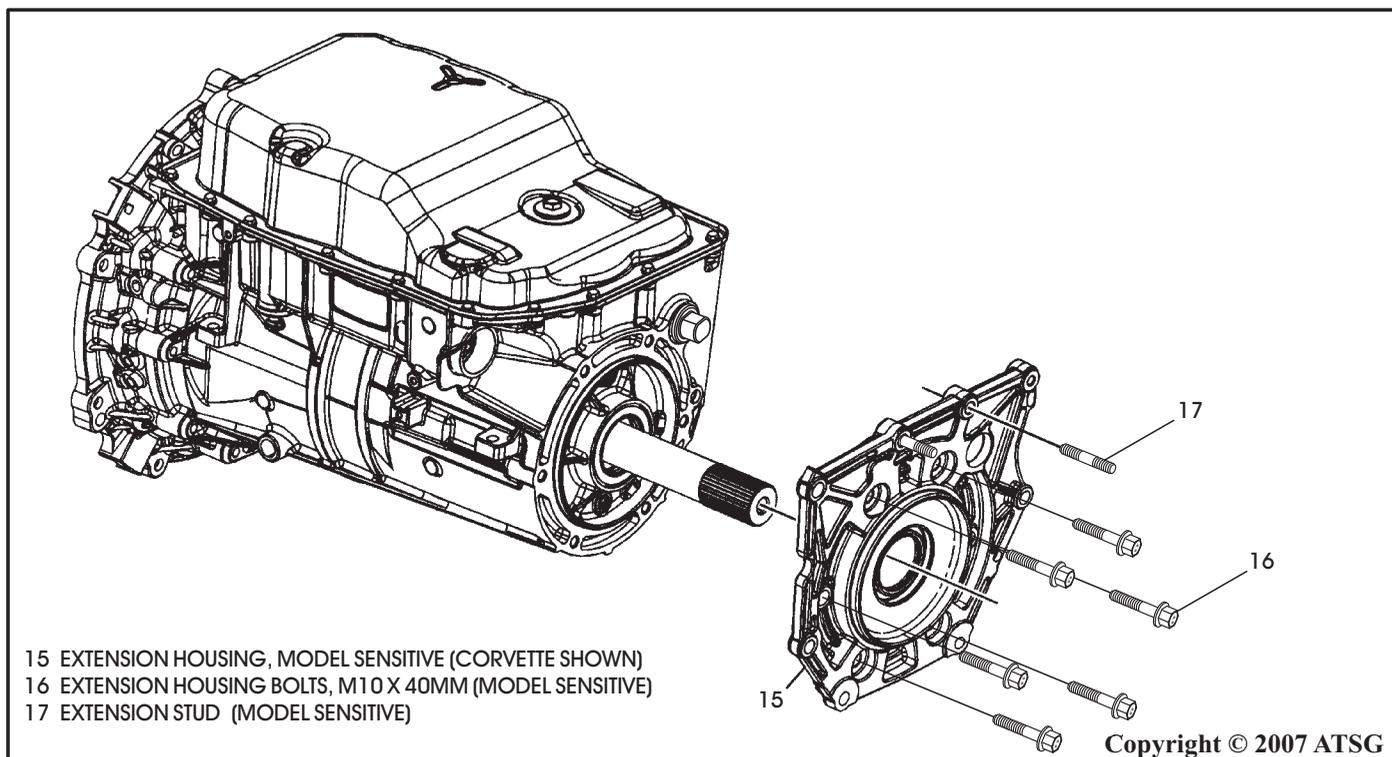

Figure 177
52. Install the extension housing studs, if they were removed, as shown in Figure 177.
53. Install the case extension housing, as shown in Figure 177, and the six retaining bolts.